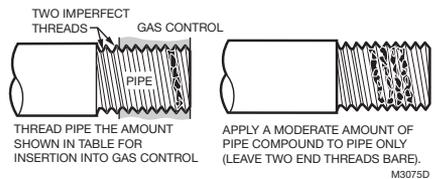

Fig. 3. Use moderate amount of pipe compound.
2. Apply moderate amount of good quality pipe compound to bushing, leaving two end threads bare. See Fig. 3. On LP installation, use compound resistant to LP gas. Do **not** use Teflon tape.
4. Apply a moderate amount of good quality pipe compound (do **not** use Teflon tape) to pipe only, leaving two end threads bare. On LP installations, use compound resistant to LP gas. Refer to Fig. 3.